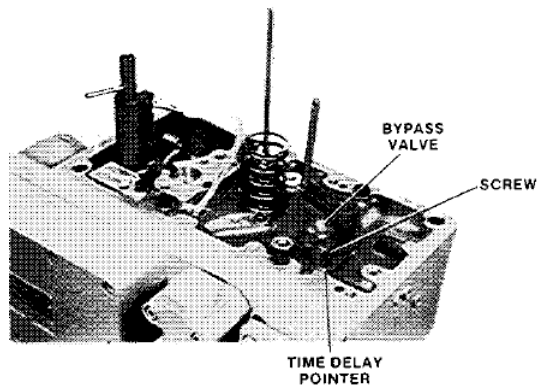

Figure 5-9. Time Delay Mechanism Installed
6. Remove 2 screws and lift off time delay mechanism (Figures 5-9 and 5-10).
8. Remove the bypass valve (Figure 5-9 and 5-11).